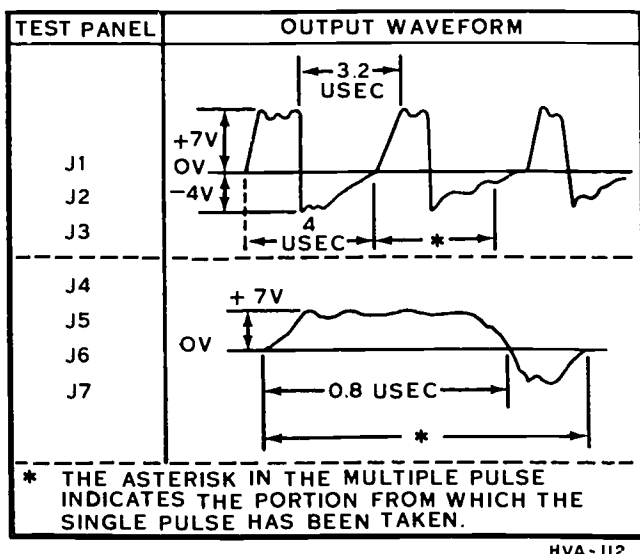

Figure 6-16. Output waveforms, example.
Figure 6-16 shows a test result that you may see on equipment jacks. In this example, voltage sine waves are shown. At jacks 1, 2, and 3 there is a signal voltage output which goes from 7 volts positive to 4 volts negative. The positive peak of the signal exists for .8 microsecond and the negative peak of the sine wave lasts for 3.2 microseconds. Thus, the complete cycle is 4 microseconds. Having tested jack 3 for this signal, you progress to jack 4. You should now see that the signal is different. The positive 7-volt peak is still .8 microsecond in length, but it reaches the peak at a delayed rate and also falls to zero at a slower rate. The negative alternation also has delays for its peaking and return.
1. Give the potential for jack 2 of the test panel at time 10 microseconds (See fig. 6-16).